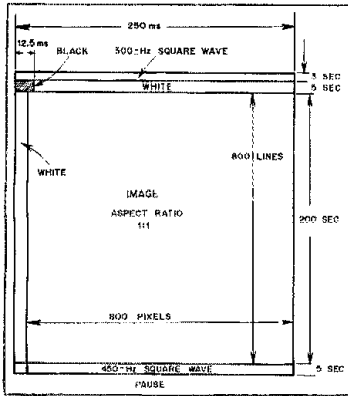

Fig. 2 — The WEFAX image format.
Fig. 2 — A top view of the W9LI antenna array. Spacing (S) between each pair of elements is 17 feet. Feed-line length (FL) from the control box to each element is 10 feet.